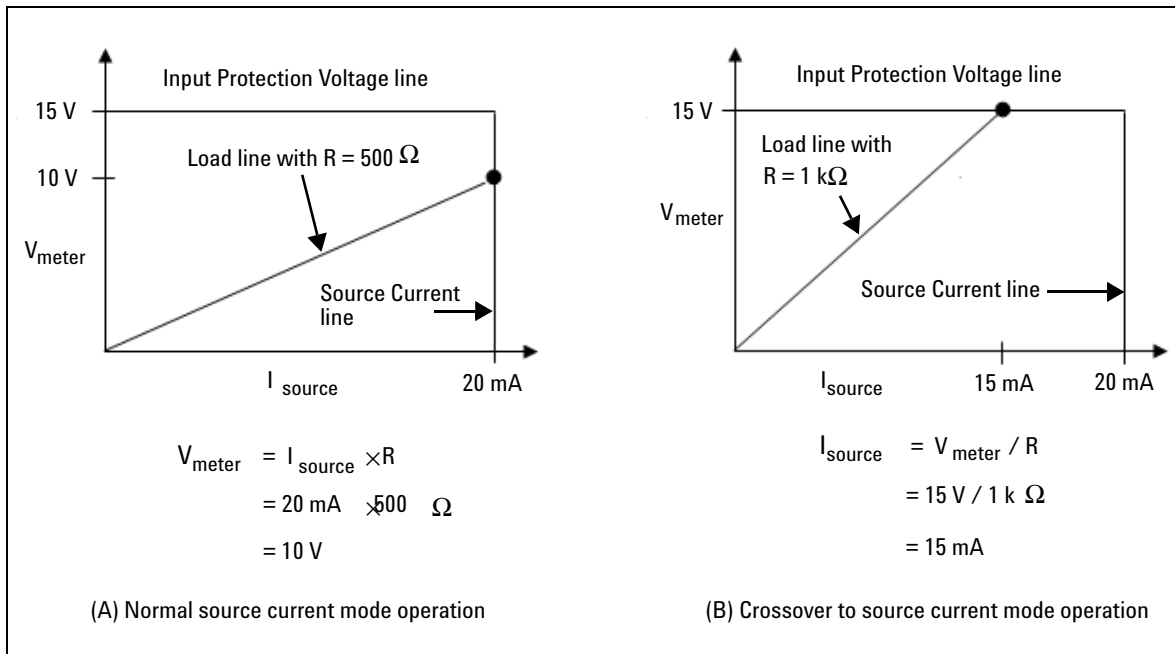

Figure 2-8 Source current operation
Figure 2-8 shows the operation with different resistive loads, which are 1 k Ω and 100 Ω respectively. In these examples, the U2722A/U2723A is having a source current of 20 mA and an input protection voltage of 15 V.
In **Figure 2-8 (A)**, the U2722A/U2723A is having a source current of 20 mA to a 500 Ω load and it is measuring 10 V. As long as the DUT load line intersects the source current line, it will be in source current mode and the current will maintain at 20 mA. However in **Figure 2-8 (B)**, it shows that when the resistance of the DUT increases to 1 k Ω , the DUT load line intersects the input protection voltage line. This forces the U2722A/U2723A to go into source voltage mode. Since the voltage setting is clamped at 15 V and the U2722A/U2723A cannot operate out of the boundary, the current then changes to 15 mA instead.